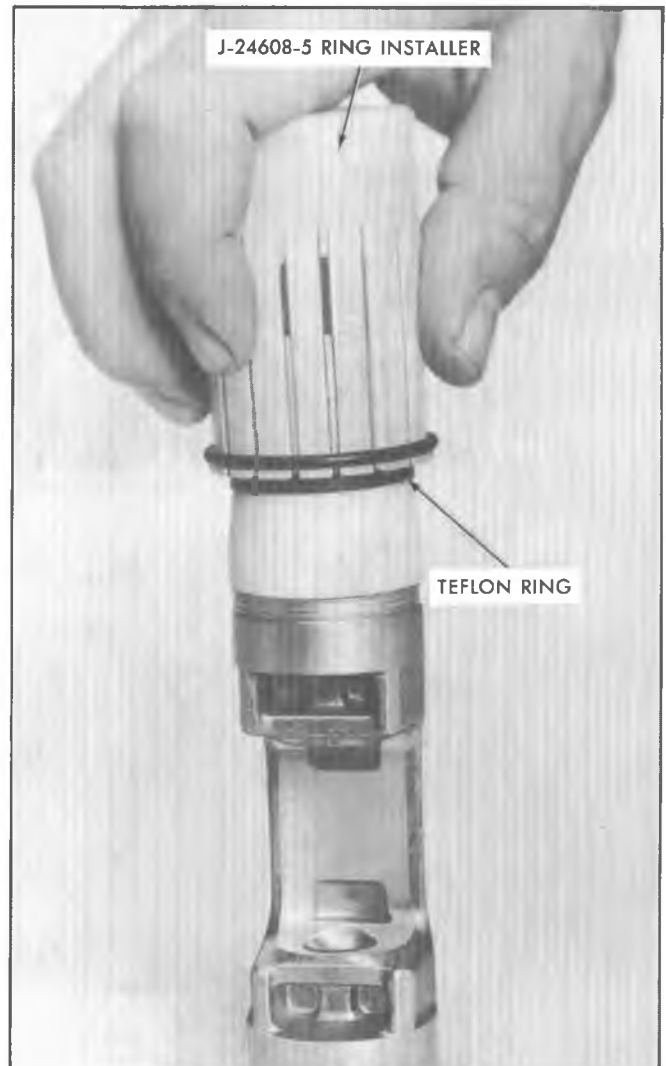

Fig. 47--Installing Teflon Piston Ring
5. Push the Ring Installer J-24608-5 down over the Installer Guide J-24608-2 to install the Teflon ring in the piston ring groove (Fig. 47). If the Teflon ring is slightly off position in the ring groove, it can be positioned into place by fingernail or blunt-edged tool that will not damage the piston.